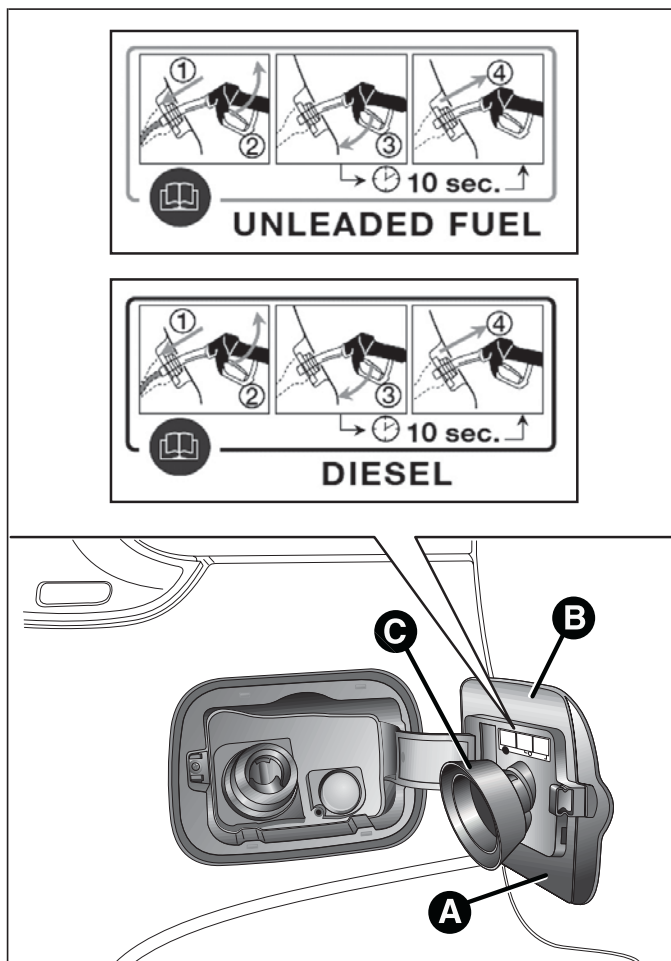

fig. 82
The refuelling procedure described below is illustrated on label B fig. 82, which is applied inside the fuel flap. The label also indicates the fuel type (UNLEADED FUEL=petrol, DIESEL=diesel fuel).
- ☐ open the flap A fig. 82 pulling it outwards;
Flap A fig. 82 is provided with a dust cowl C which prevents deposits of impurities and dust at the end of the filler when the flap is closed.